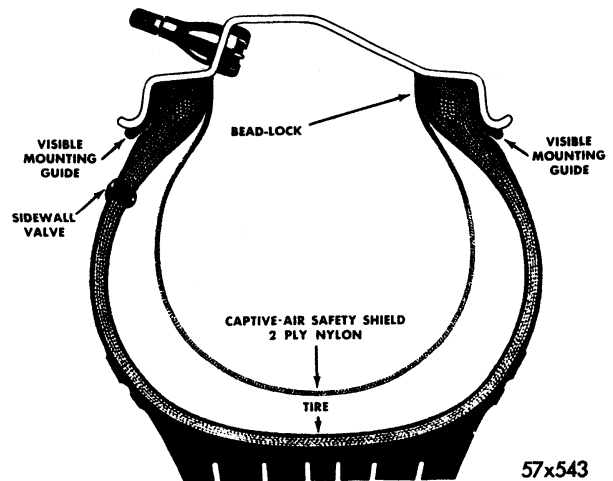

Fig. 10—Captive-Air Safety Tire (Sectional View)
**14. CAPTIVE—AIR SAFETY TIRE (Fig. 10)**